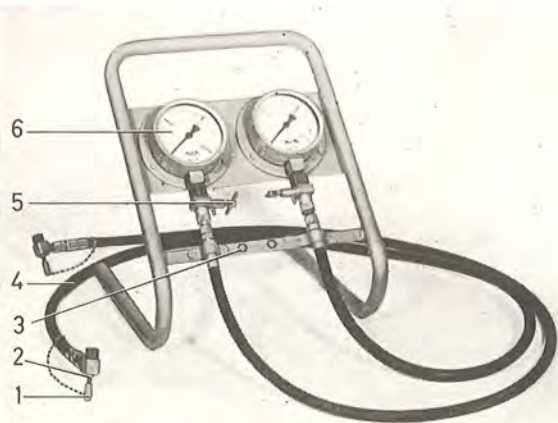

Fig. 5-2. Testing device SVO 2741
The testing device (Fig. 5-2) is used, for example, to trace faults in the brake system.
2. Remove both the inside venting nipples at one of the front brake calipers and connect up the testing device SVO 2741 shown in Fig. 5-2.